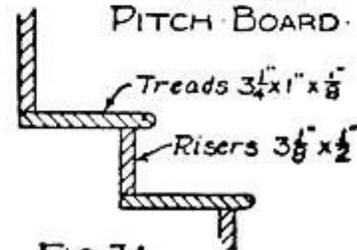

FIG. 74
**The Treads and Risers** should be cut as shown in Fig. 74, and the